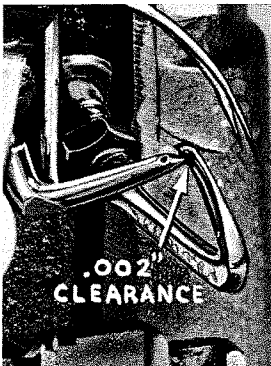
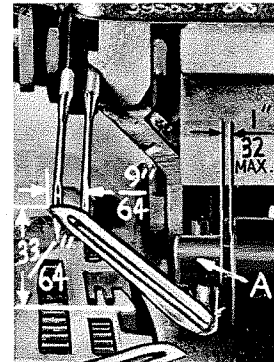

Fig. 9
Fig. 10
By adjusting looper holder in or out of upper looper shaft and by turning the looper around its shank, set upper looper point to cross lower looper to the left of the lower looper eye with 0.002 to 0.004 clearance (Fig. 9).
Next, turn the handwheel until upper looper is at the left end of its travel. Check dimensions of upper looper point with respect to the right needle and throat plate (Fig. 10). If resetting is necessary, do it by moving the upper looper holder (A, Fig. 10). Figure 10 represents the dimensional setting.
Dimension 33/64 inch is increased by turning upper looper holder counter-clockwise looking from left end of machine. Dimension 9/64 inch is increased by pulling upper looper holder left, out of the upper looper shaft. A maximum dimension of 1/32 inch (Fig. 10) should be maintained between the upper looper holder and the upper looper shaft. After these changes are made, it may be necessary to turn the upper looper around its shank slightly to maintain the condition shown in Fig. 9.
Check setting to avoid interference between upper looper and needle on needle downstroke. If needle rubs the back of upper looper, pull looper out of its holder slightly and rotate looper a short distance counter-clockwise, looking from left end of machine. Reset to maintain dimensions of Fig. 9, 10, 11.
If it becomes necessary to move looper thread pull-off (R) be sure to take up all end play in needle drive shaft before tightening. If upper looper is located so that it is higher over throat plate than recommended in (Fig. 10), the purl will tend to form near top edge. If upper looper is too low, the purl will form nearer bottom edge.